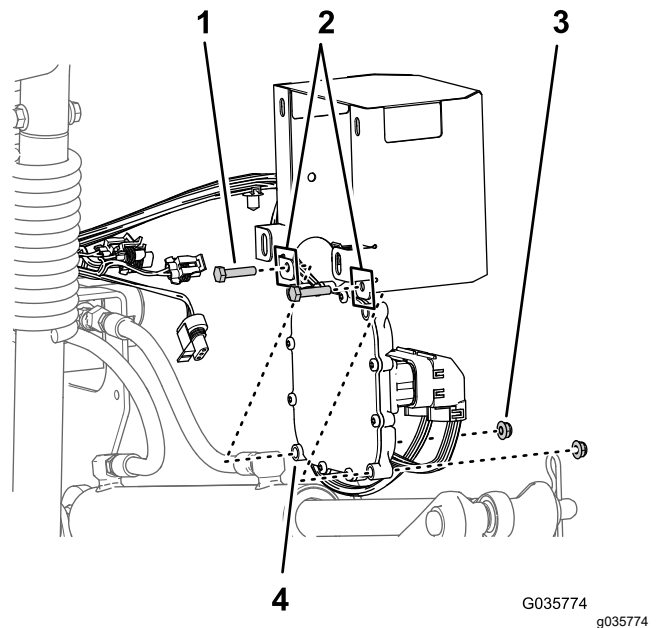

Figure 28
1. Align the electronic controller to the interior of the controller cover with the lower outboard mounting holes of the controller aligned with the holes in the lower rear flange of the cover (Figure 28)
2. Assemble the controller to the cover with 2 bolts (1/4 x 1-1/8 inches) and 2 flange locknuts (1/4 inch) as shown in Figure 28.